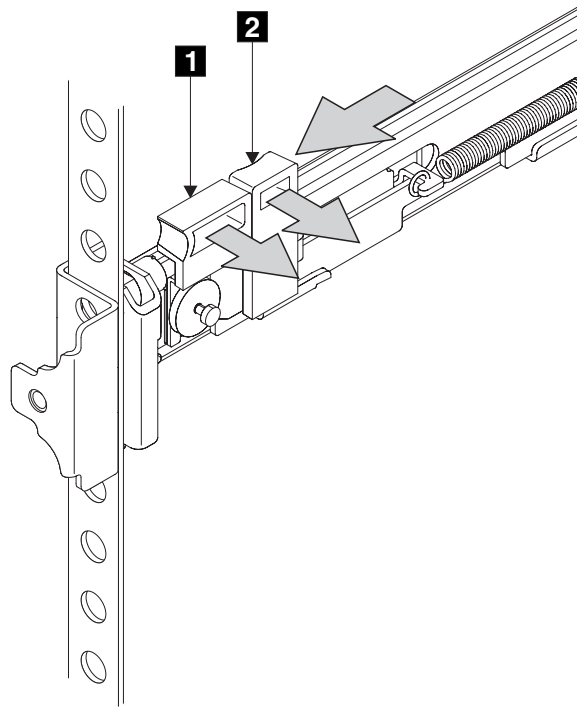

Figure 31. Closing the latch-lock carrier assembly
13. Push the latch lock **2** (Figure 31) away from the rail to release the carrier. The latch-lock carrier slides toward the front of the rack, and the locating pins project through the holes that are in the front flange and in the front rail bracket.